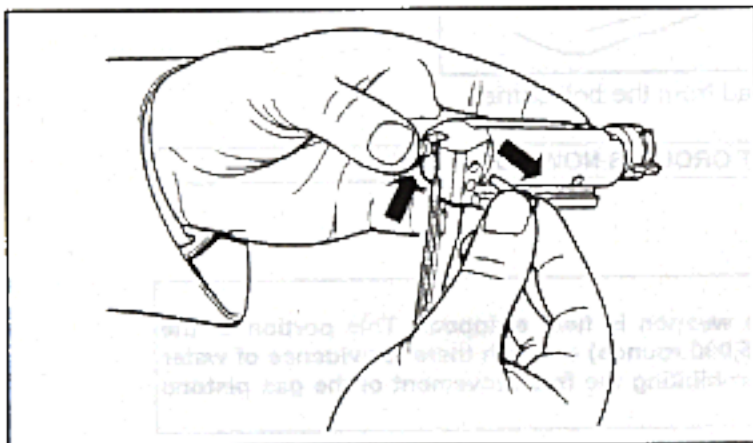

Figure 25. Removing the firing pin retaining pin
- A. **Remove firing pin retaining pin** – Place a finger over the rear end of the firing pin while you remove the firing pin retaining pin from the right side of the bolt carrier (Figure 25).